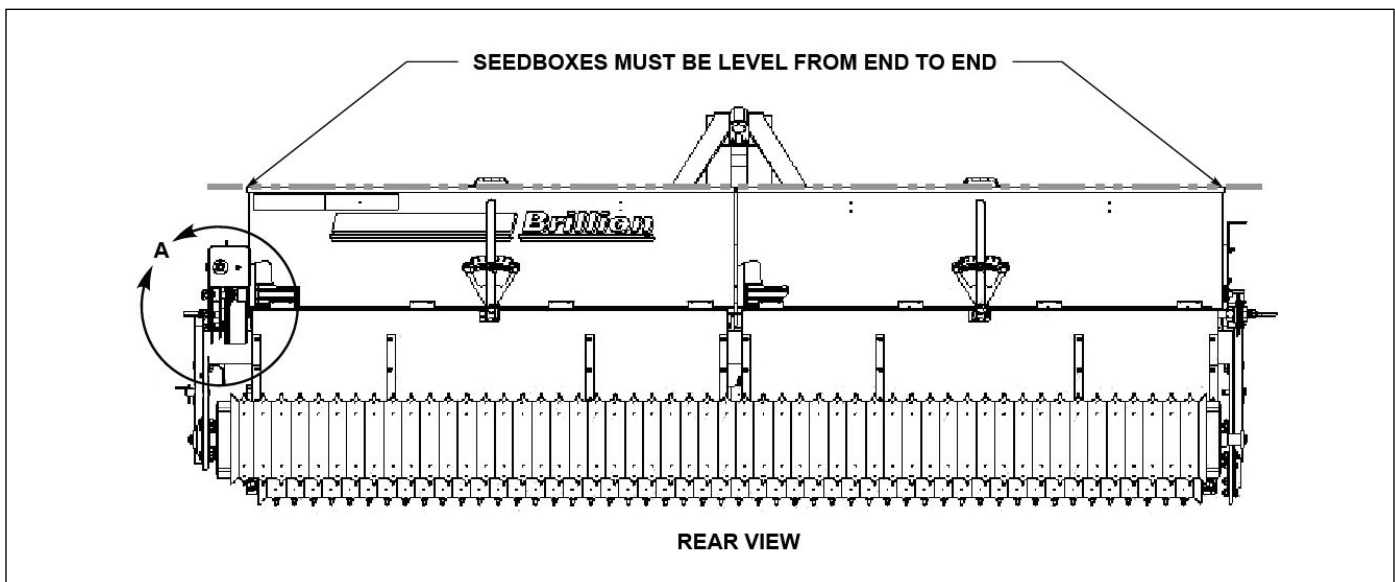

Figure 4-13: Seed Box Level and Straight
- Check that Seed Boxes are level and straight from end to end. Loosen and adjust Seed Boxes from the center and right hand end brackets if necessary. It may also be necessary to make an adjustment of the Left Hand Seed Box on the Transmission. **See Figure 4-13.**